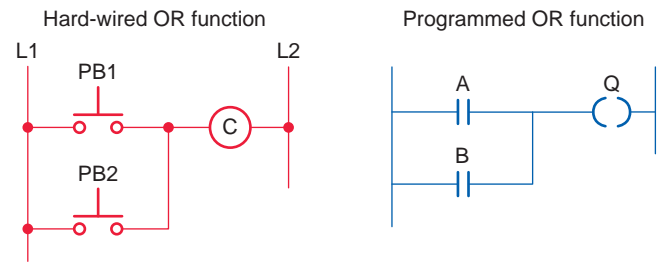

Figure 9-55 Hard-wired circuit and the equivalent PLC logic program for an OR logic control function.
Figure 9-55 shows a hard-wired circuit and the equivalent PLC logic program for an OR logic control function. Either one of the two normally open push buttons (PB1 or PB2) is closed to energize the contactor coil (C). This control logic is implemented in the hard-wired circuit by connecting the two input push buttons in parallel with each other to control the output coil. The PLC program uses the same inputs (PB1 and PB2) and output (C) devices connected to the PLC, but implements the logic via the program rather than the wiring.